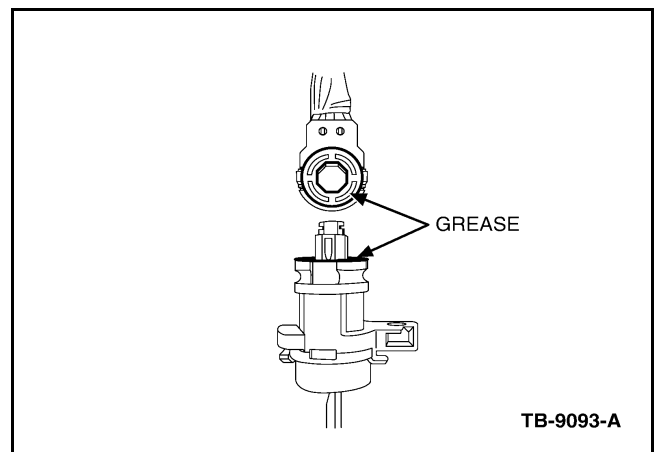

Figure 2 - Article 08-9-2
- b. Apply Motorcraft® Silicone Brake Caliper Grease and Dielectric Compound liberally to the switch and lock cylinder mating surfaces. (Figure 2)